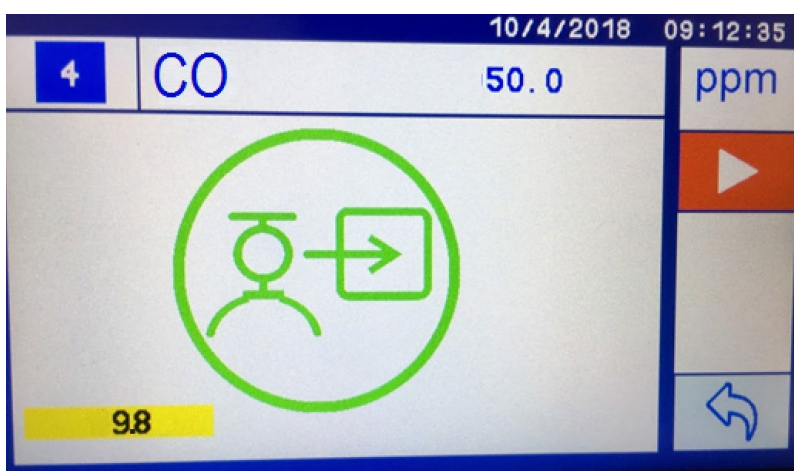

Figure 11-3: Start calibration – gas filling state
3. Press  to accept the new entry and launch the manual calibration run screen shown in Figure 11-3.
- b. The Run  icon will stay red (see Figure 11-3) while the gas measured value is: